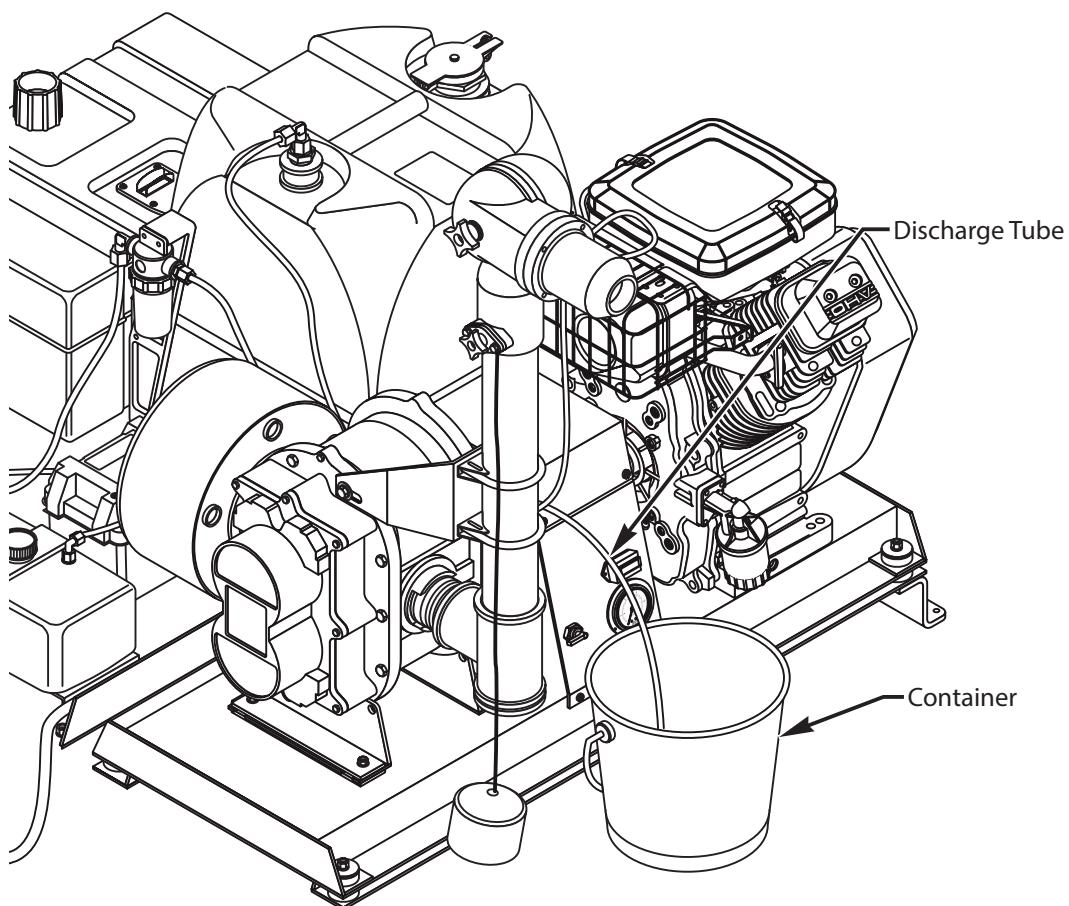

Figure 13 - Discharge Tube
1. Disconnect the insecticide discharge line from the nozzle and place in a suitable container. Do not allow insecticide to be discharged into the nozzle of an idle fog generator. Reference Figure 13 on page 19.
1. Disconnect the insecticide discharge line from the nozzle and place in a suitable container. Do not allow insecticide to be discharged into the nozzle of an idle fog generator. Reference Figure 13 on page 21.